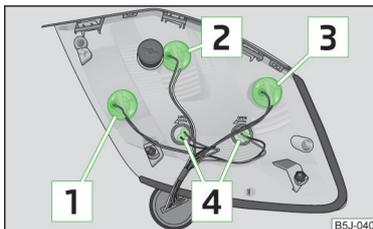

Fig. 163
Bulb location » Fig. 163.
- › To replace the bulb, turn the bulb holder **anti-clockwise** to the stop and remove it from the housing » Fig. 163.